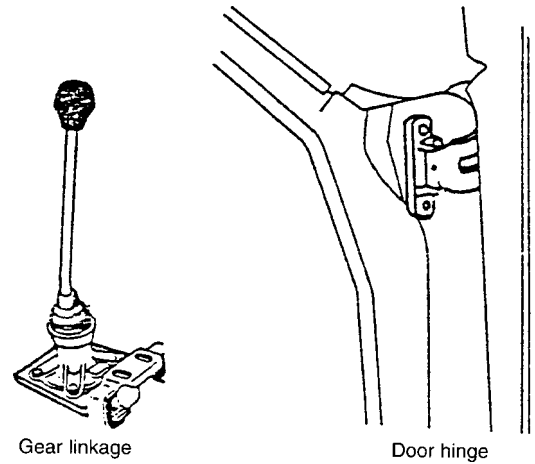

Fig. 1.41 Areas of boundary friction
- **Boundary friction** This is friction between two materials where very little lubrication is present (Fig. 1.41).